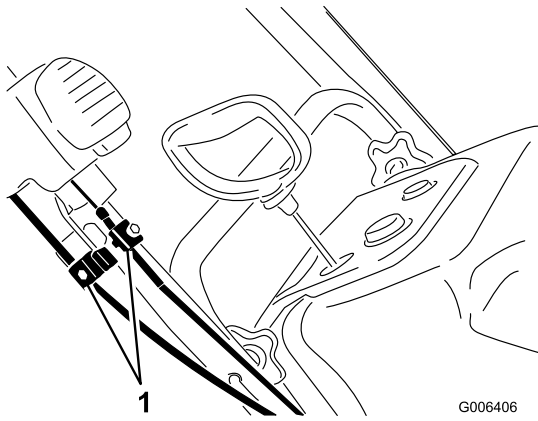

Figure 40
1. Loosen the two Quick Shoot control cable clamps (Figure 40).